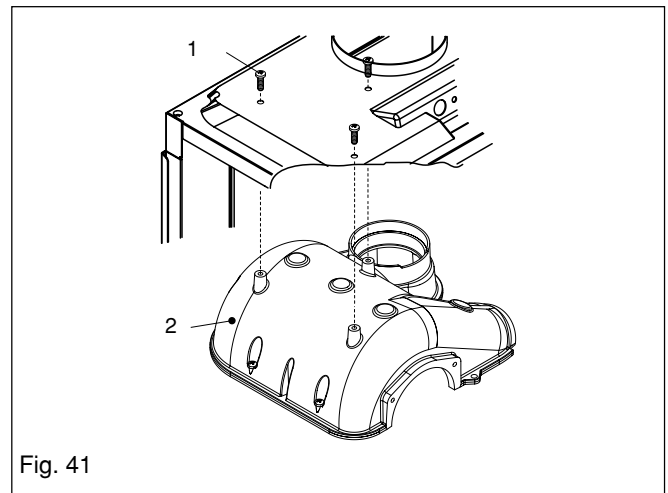

Fig. 41
**Fig. 41:** unscrew and remove the 3 screws (1) that secure the collector to the air chamber and disconnect the collector (2) from the flue connection. Replace in the reverse order ensuring all seals are intact and located correctly.